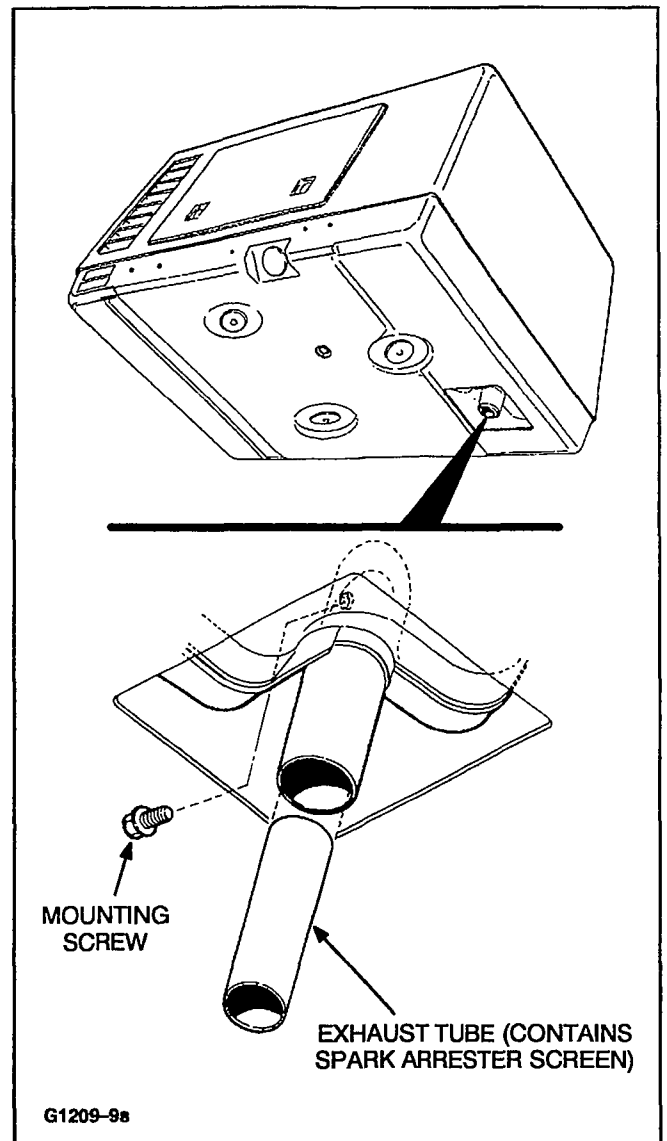

FIGURE 15. SPARK ARRESTER CLEANING
1. Loosen the U-bolt clamp securing the exhaust pipe to the exhaust tube on the genset (Figure 15). Disconnect the exhaust pipe from the exhaust tube.